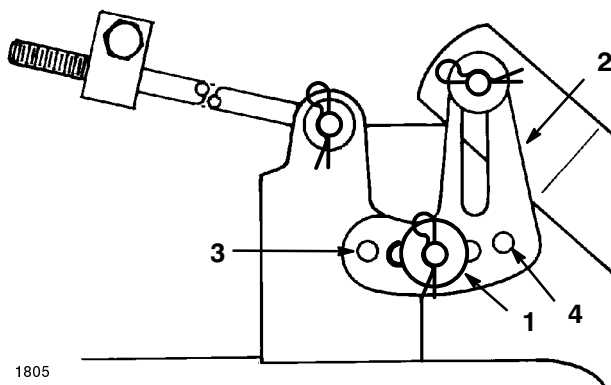

Figure 54
4. Remove the hair pin cotter and washer from the leveling bracket (Fig. 54). To level the blade(s), reposition the leveling bracket(s) in a different hole and install the washer and hair pin cotter. (Fig. 54). A front hole lowers the blade height and a rear hole raises its height. Adjust both sides as required.